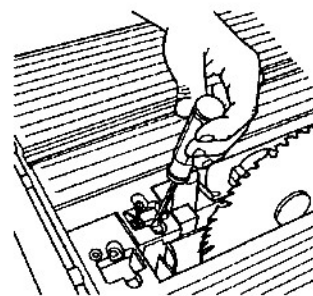

Fig. B-26
b. Use a medium screwdriver to gently pry the pillow block to the **left**, as illustrated in Fig. B-26. It should move only far enough to get the paper to slip between the rod and blade with the same resistance as set at the outfeed side.